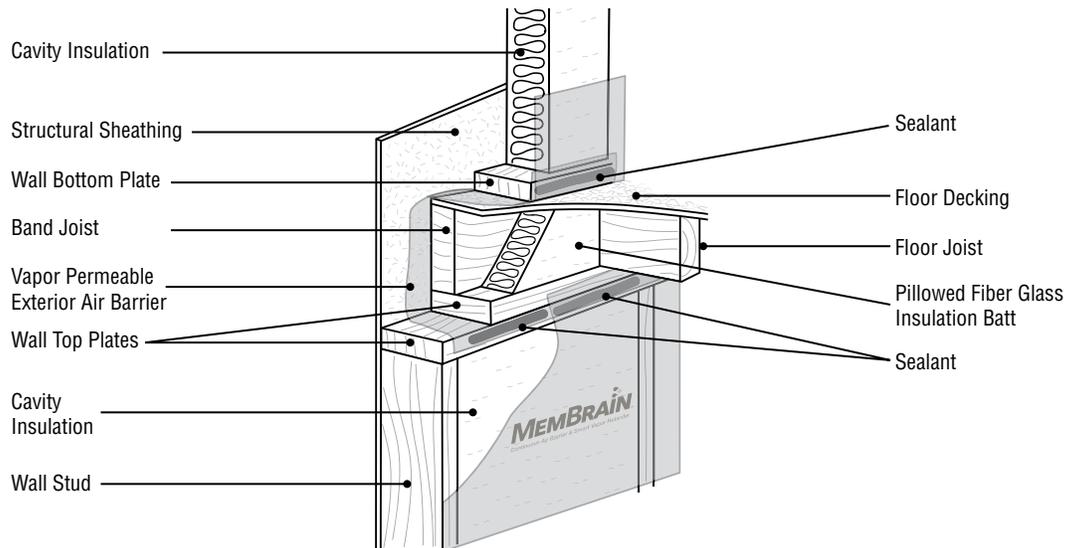

Figure 17: Detail B – MemBrain Air Barrier System interior floor intersection details.
4. Apply recommended sealant over ceiling-overlapped film material at the top plate, to the frame around window and door rough openings and to the bottom plate (See MemBrain Air Barrier System Details on page 4 and Figure 17 on page 10). Working towards the opposite corner, pull the sheet tight, and staple the offset edge to the top sill plate through the sealant bead. Staples should be at least 12 to 24 inches apart.